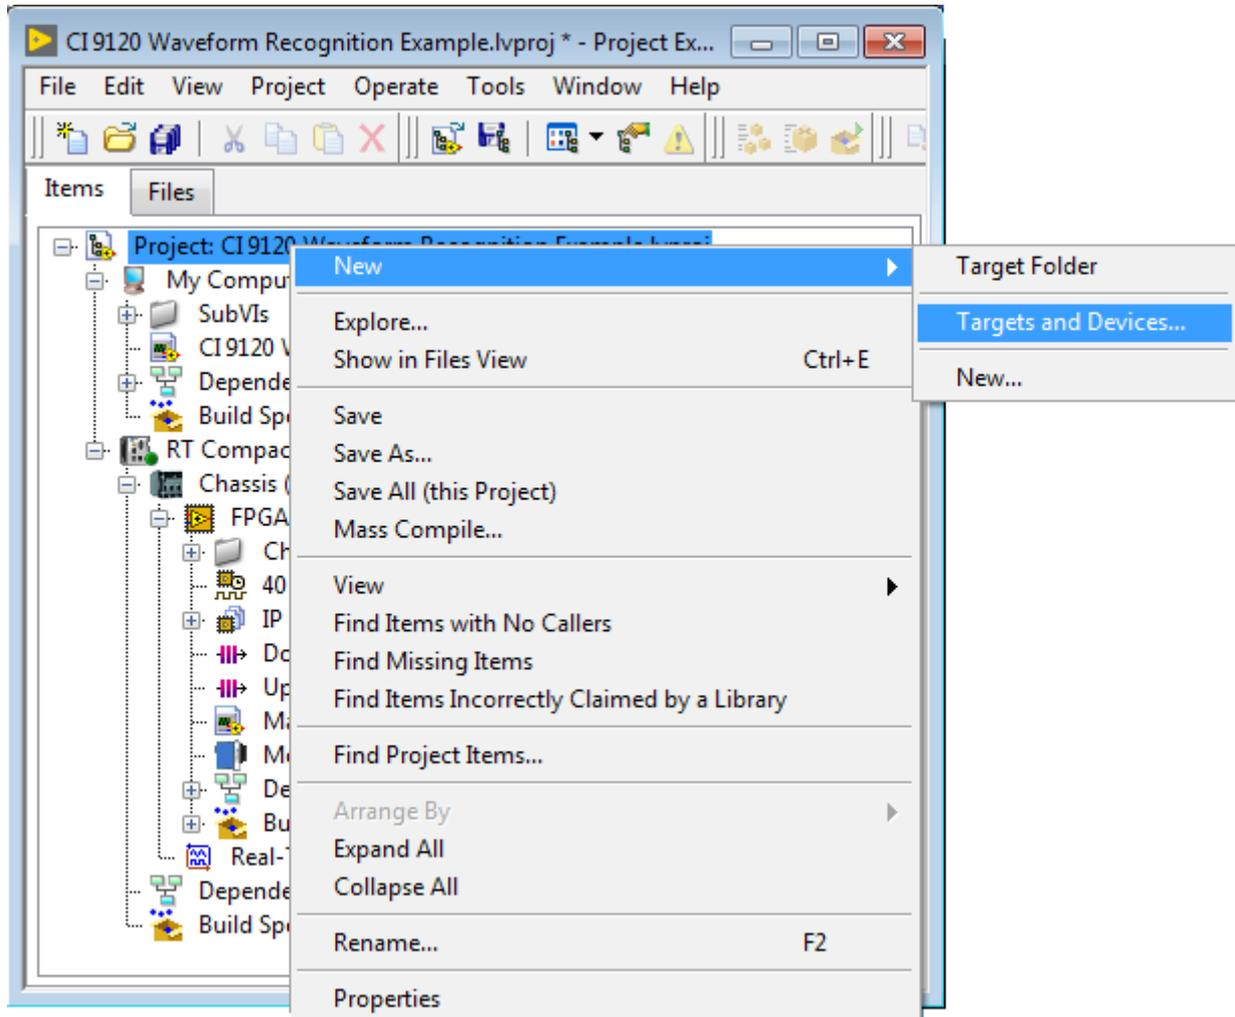

Fig. 1: Adding a new Target to the project.
5. In the Project Explorer window, right-click Project → New → Targets and Devices...(see Fig.1)